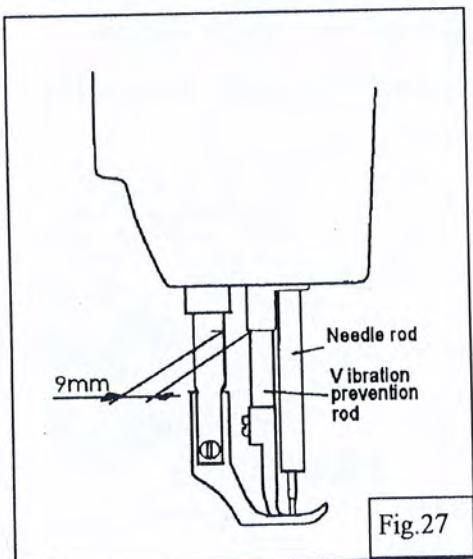

Fig.27
- D Set the needle at the lowest position. Adjust the distance between presser rod and vibration prevention rod to 9mm and temporarily tighten the feed lifting rockshaft crank set screws A and B.(Fig.27)